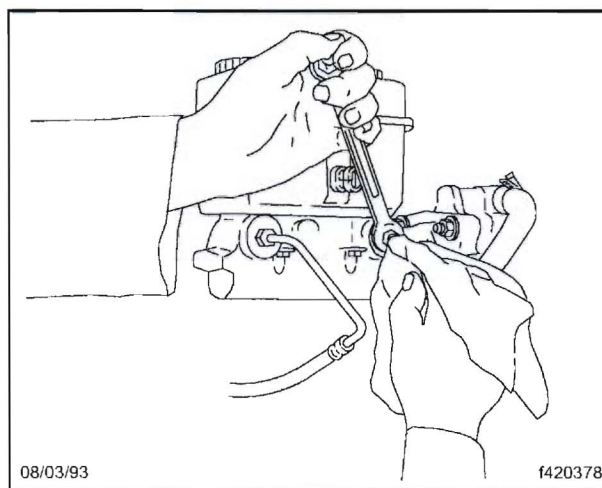

Fig. 5, Rear Outlet Port
- 3.1 Using a wrench (and a rag to absorb leaking brake fluid), loosen the fitting at the rear outlet port on the master cylinder. See **Fig. 5**. Loosen the fitting about one turn.